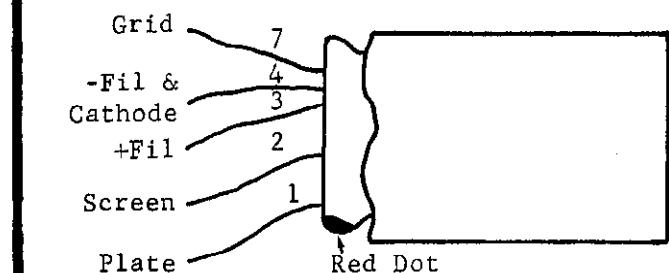
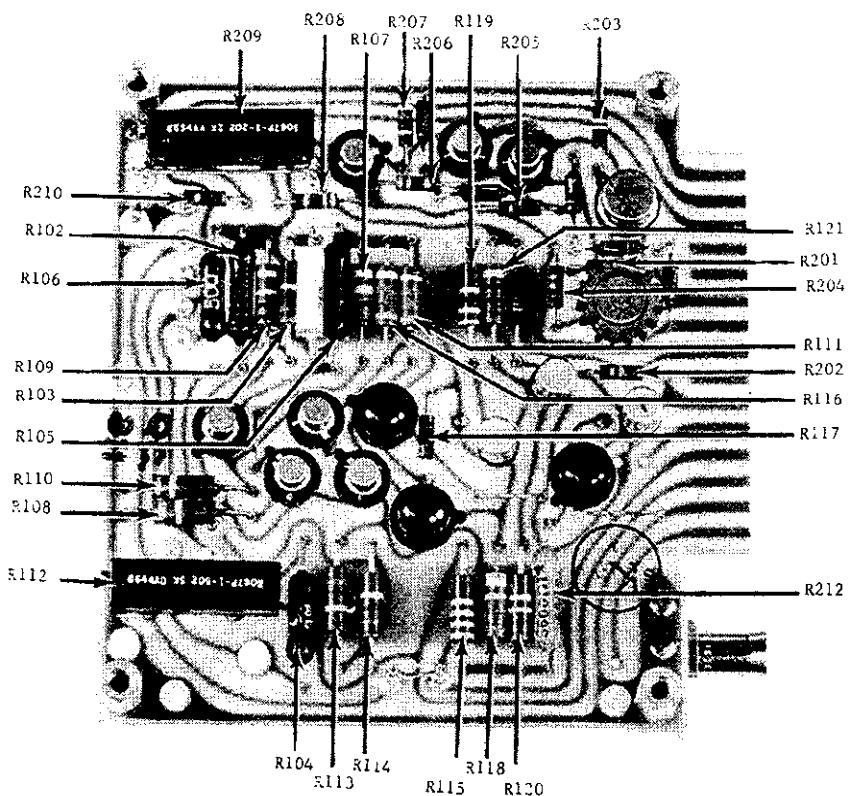
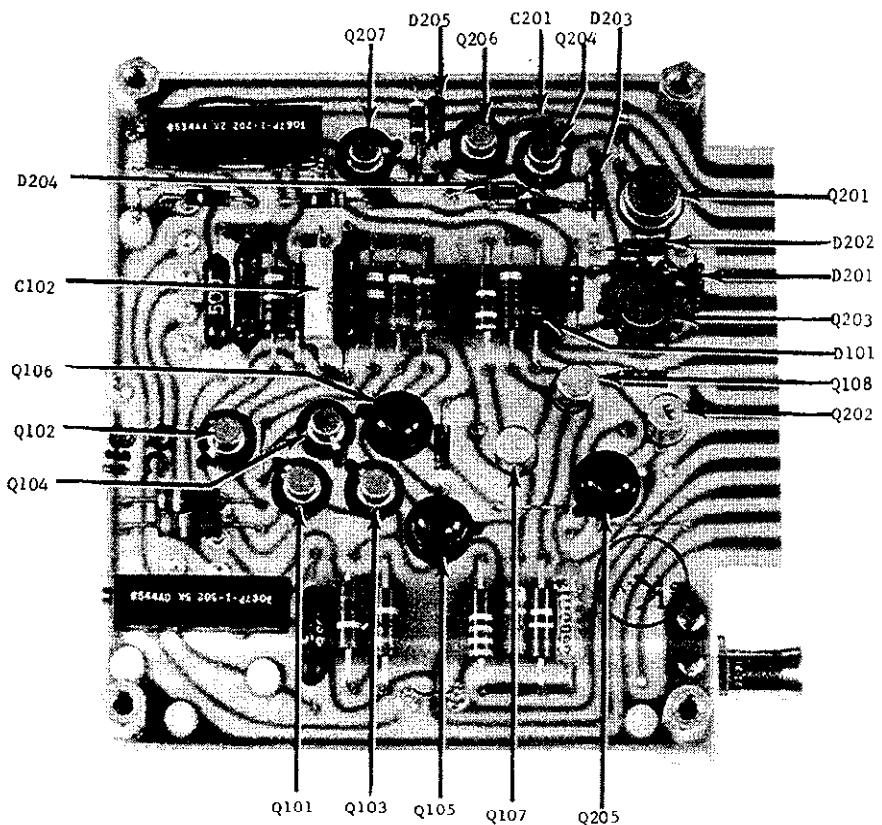
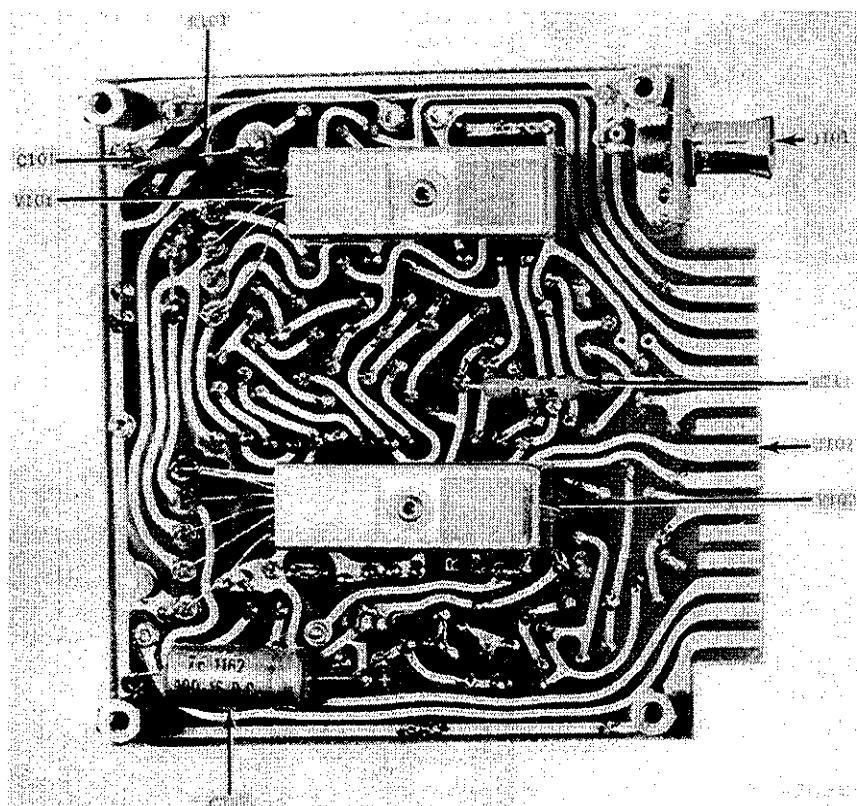

FIGURE 21. Base Connections for Electrometer Tube.
FIGURE 22. Resistor Locations on PC-110, Model 300. For component locations, see Figure 23. For components on other side of PC-110, see Figure 24.
FIGURE 23. Component Locations on PC-110, Model 300. For resistors see Figure 22. For components on other side of PC-110, see Figure 24
FIGURE 24. Component Locations on PC-110, Model 300.
1. Disconnect jumpers F-G and L-M (Figures 6 and 7) to remove potentiometer R112 (Figure 22) from the circuit.
- e. If either regulator is not operating (zero regulation), the series transistor is probably shorted and should be replaced. For the positive regulator, replace Q203 (Figure 23). For the negative regulator, replace Q202 (Figure 23).
3. Measure the voltage at the wiper of potentiometer R209 (Figure 22). The voltage should be about 9 volts. If +13.5 volts is present, then resistor R210 (Figure 22) is either faulty or it is not connected. If 0 volt is present then resistor R208 (Figure 22) is either faulty or it is not connected. If neither +13.5 volts nor 0 volts is present and if the voltage is not about 9 volts, then potentiometer R209 is faulty.
4. If the voltage is about 9 volts, adjust potentiometer R209 a few turns to make sure that this voltage varies. Then check the base voltage of transistor Q206 (Figure 23). This voltage should be between 8.55 volts and 9.45 volts. If it is not, then either resistor R205 (Figure 22) or diode D204 (Figure 23) is faulty. Next, check the collector of transistor Q206 to see if the voltage here varies when potentiometer R209 is adjusted. If it does not vary, then either transistors Q206 or Q207 or both are faulty.
5. Finally, check the voltage at the collector of transistor Q204 (Figure 23) and make sure that there is a response to adjusting R209. If there is no response at the
For the negative regulator, repair is easiest by replacing transistors Q202 and Q205 (Figure 23).
b. Connect the Model 153 between the plates (Figure 21) of V101 and V102 (Figure 24). Adjust the zero potentiometer, R112 (Figure 22), for null. If null cannot be reached, check the tubes, the zero control circuit, and transistors Q101 and Q102 (Figure 23). Check the transistors by replacing them and adjusting for null again.
c. Check the next stage by connecting the Model 153 across the emitters of transistors Q101 and Q102 (Figure 23) and adjusting the zero potentiometer, R112 (Figure 22), for null. If null is not reached, check this stage and the base circuit of the next stage. Check the base circuit by removing transistors Q103 and Q104 (Figure 23) and again adjusting for null. If null is now reached, replace Q103 and Q104 with a new pair.
d. Check the next stage by connecting the Model 153 across the collectors of Q103 and Q104 (Figure 23) and adjusting for null. If null is not reached, check this stage and check for shorts in the circuit of Q105 and Q106 (Figure 23).
e. Check transistors Q105 and Q106 by measuring the potential of the collector of Q105 with respect to ground. Note that as adjusting potentiometer R112 (Figure 22) carries the other stages through null, the voltage at the collector should swing from at least -11 volts to at least +11 volts. If this does not occur, disconnect the output stage by removing transistor Q107 and resistor R119. Now repeat adjusting potentiometer R112. If the collector of Q105 still does not swing ±11 volts, replace transistor Q105 or Q106 or both. If transistors Q105 and Q106 were operating properly, then the defect is in the output stage and replace transistor Q107 or Q108 (Figure 23) or both.
For components on other side of PC-110, see Figures 22